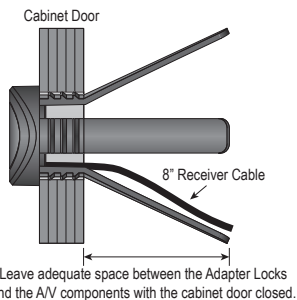

Figure 12 - Flush Mount Adapter - Adapter Installed
1. Select a location on the cabinet door to mount the Flush Mount Adapter. Be sure to leave adequate clearance from the back of the cabinet door to the front of the A/V components to allow room for the Adapter Locks with the door closed. (**Figure 12**) Also be sure that once mounted, the IR Receiver will not be blocked by any object to allow 'line-of-sight' between the remote control and the IR Receiver in normal use.